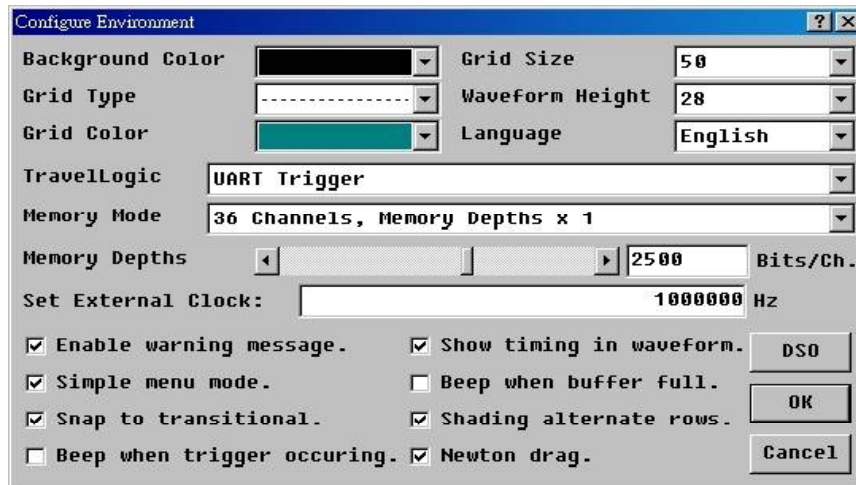

Figure 3
**Memory Depth** is to adjust the memory depth per channel by moving the scroll bar in the Memory Depth box as shown in Figure 3. This function provides convenience when you use only 2 or 4 channels to trigger the UART signal and need less than the maximum memory depth per channel.